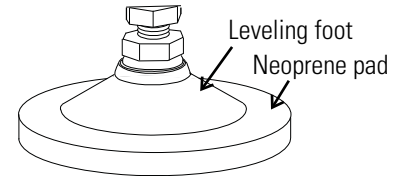

**Figure 1-2.** Exterior Top of Unit
**Caution** Do not lift with forklift or other lifting device near the center of the unit base. Damage to the shaker mechanism mounting may occur. When lifting from the base, position the lifting device as close as possible to the leveling feet. Whenever possible, lift the unit by the four threaded inserts (Figure 1-2). Do not attempt to lift a stack of units by the threaded inserts. The inserts are provided to lift and position only one unit at a time. ▲
2. Place the 1½ inch tall spacers (Figure 1-7) over the threaded inserts in the top four corners of the base unit (Figure 1-2).
3. Using the appropriate lifting device, carefully raise the unit to be stacked. Remove all (4) leveling feet.